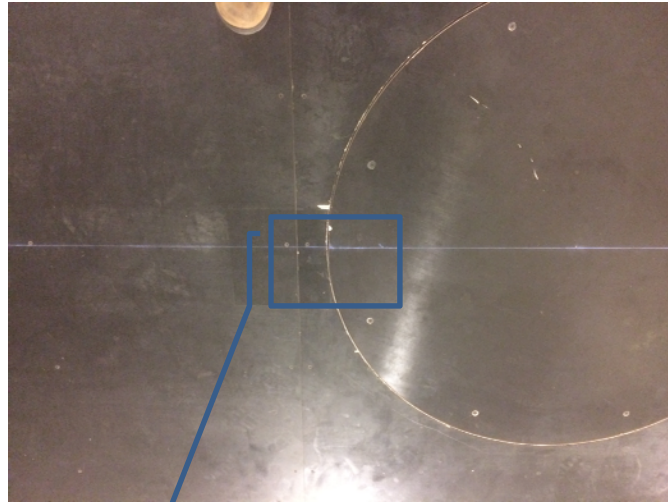

Figure 2.
- 2.1.3 If necessary set the turntable to 0 degrees using the indicatory marks on the floor (fig. 2).